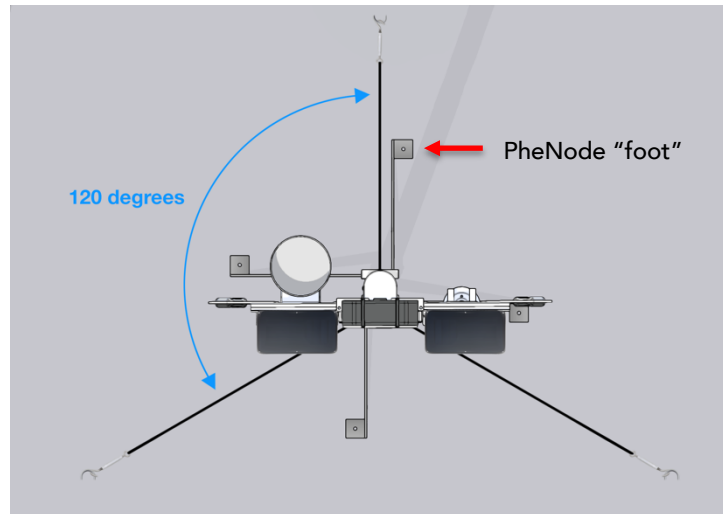

Figure 18. Guy wire positioning from above
4. Hammer ground stakes into the “foot holes” of the Tower structure until the hook on the ground stake is touching the metal of the PheNode “foot” (Figure 18) and both sides of the ground stake hook are below the ground surface.
Mark the spot where the hook end of the turnbuckle is touching the ground. (CHECK TO ENSURE THE TURNBUCKLE IS LOOSENEED ENOUGH THAT AT LEAST 3” OF THREADING IS EXPOSED ON EITHER SIDE) All guy wires should be roughly 120 degrees away from one another (Figure 18). Eye screws on the tower structure are already 120 degrees from one another and should be used as a guide.